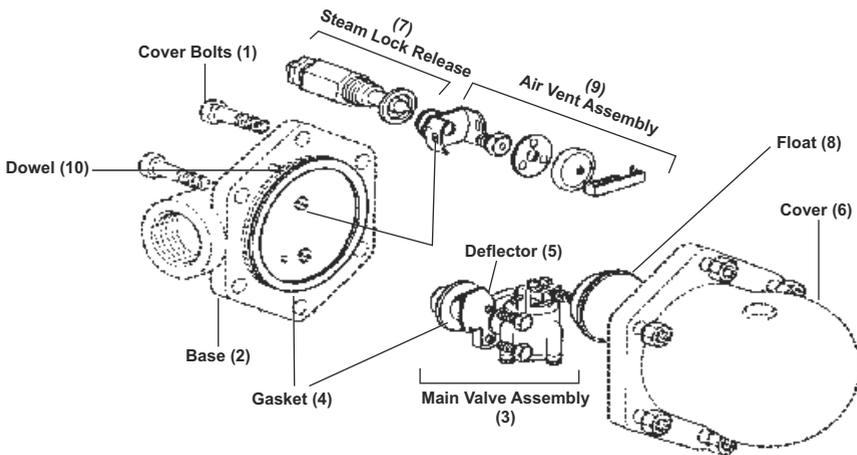

Figure8: Maintaining the main valve assembly
7.4 Maintaining/ replacing the main valve assembly : (Refer to Figure 8)
*The float trap in the figure 8. shows a TV+SLR assembly. SOFT31 (1½", 2") comes with only TV or SLR assembly.
9. Available Spares: (Refer to Figure 8)